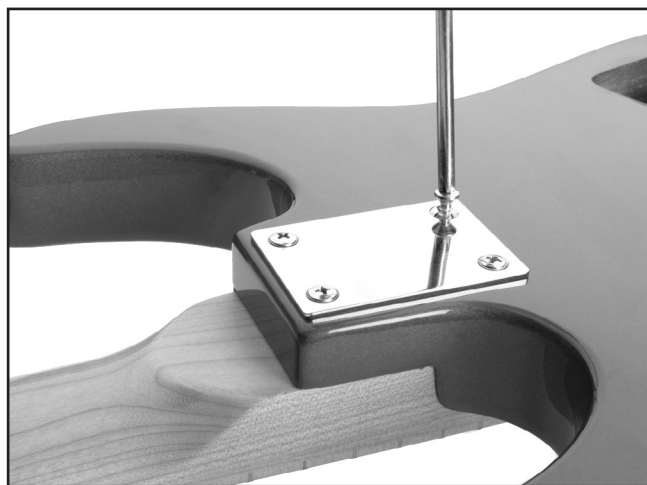

Figure 2. Neckplate installation.
5. Place the neck in the neck pocket, place the neckplate over the neck pocket holes, and secure the neck to the guitar with #7 x 1½" chrome plated screws as shown in **Figure 2**.